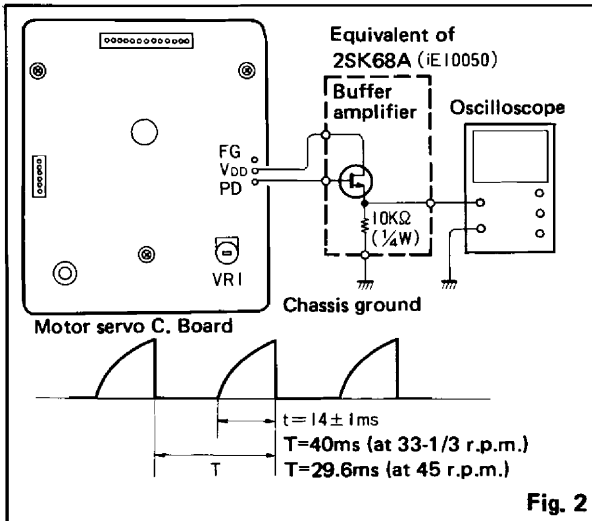

Fig. 2
- 1) As in Fig. 2, connect the buffer amplifier to the motor servo circuit board.
- 3) Connect an oscilloscope set at 10 kohms resistance level, to both terminals of the source in the buffer amplifier. Adjust the VR 1 so that "t" of the saw tooth wave is  $14 \pm 1$ ms as in Fig. 2.